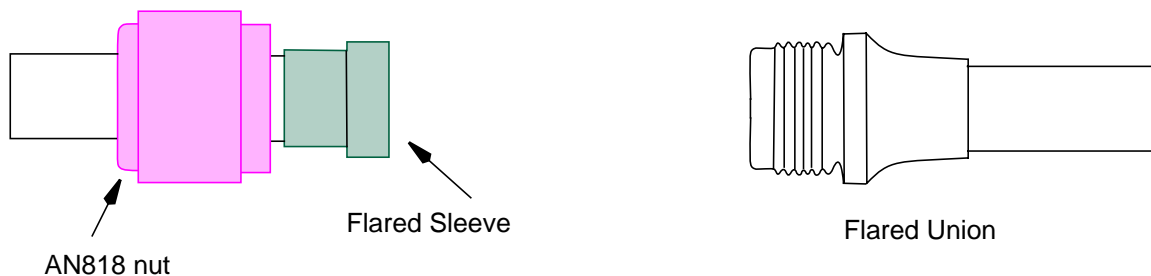

Figure 1 - Internal Roller Swage Flared Sleeves and Unions
- 4.1.1 Internal roller swage flared sleeves and flared unions as specified by the engineering drawing (see Figure 1).